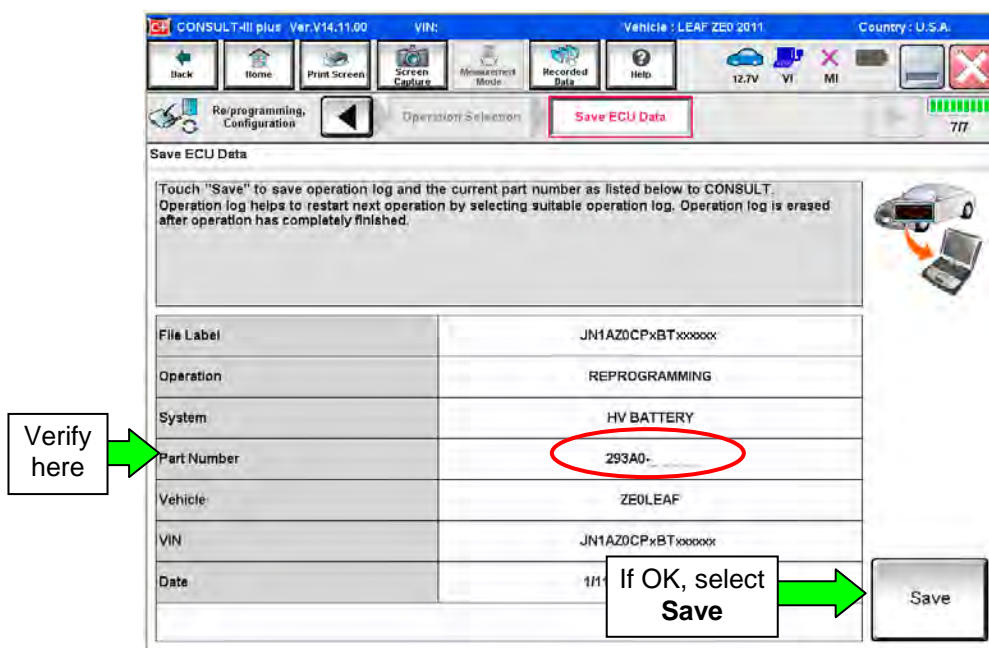

Figure 42
44. Write down the **Part Number** on the vehicle's repair order from Figure 42 and confirm if it matches the part number in Table "C" below.